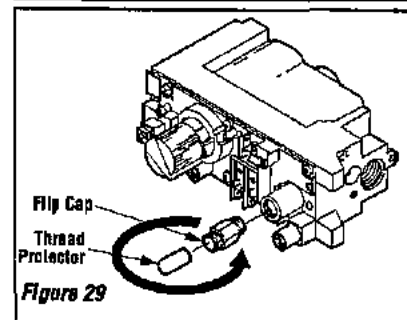

Figure 29
a. Convert the gas valve as follows (see Figure 29 and the instructions provided with the kit):